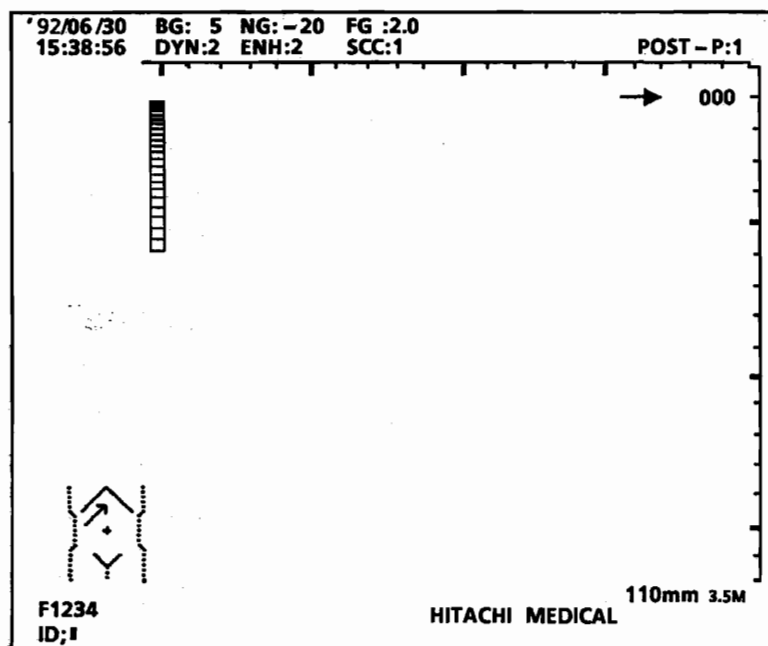

Fig. 7.1.1 ID Input Format OTHER
For ID setting, refer to (1)-(f) of item 8.3.4. Example ID settings by OTHER and OB are shown in Figs. 7.1.1 and 7.1.2, respectively.